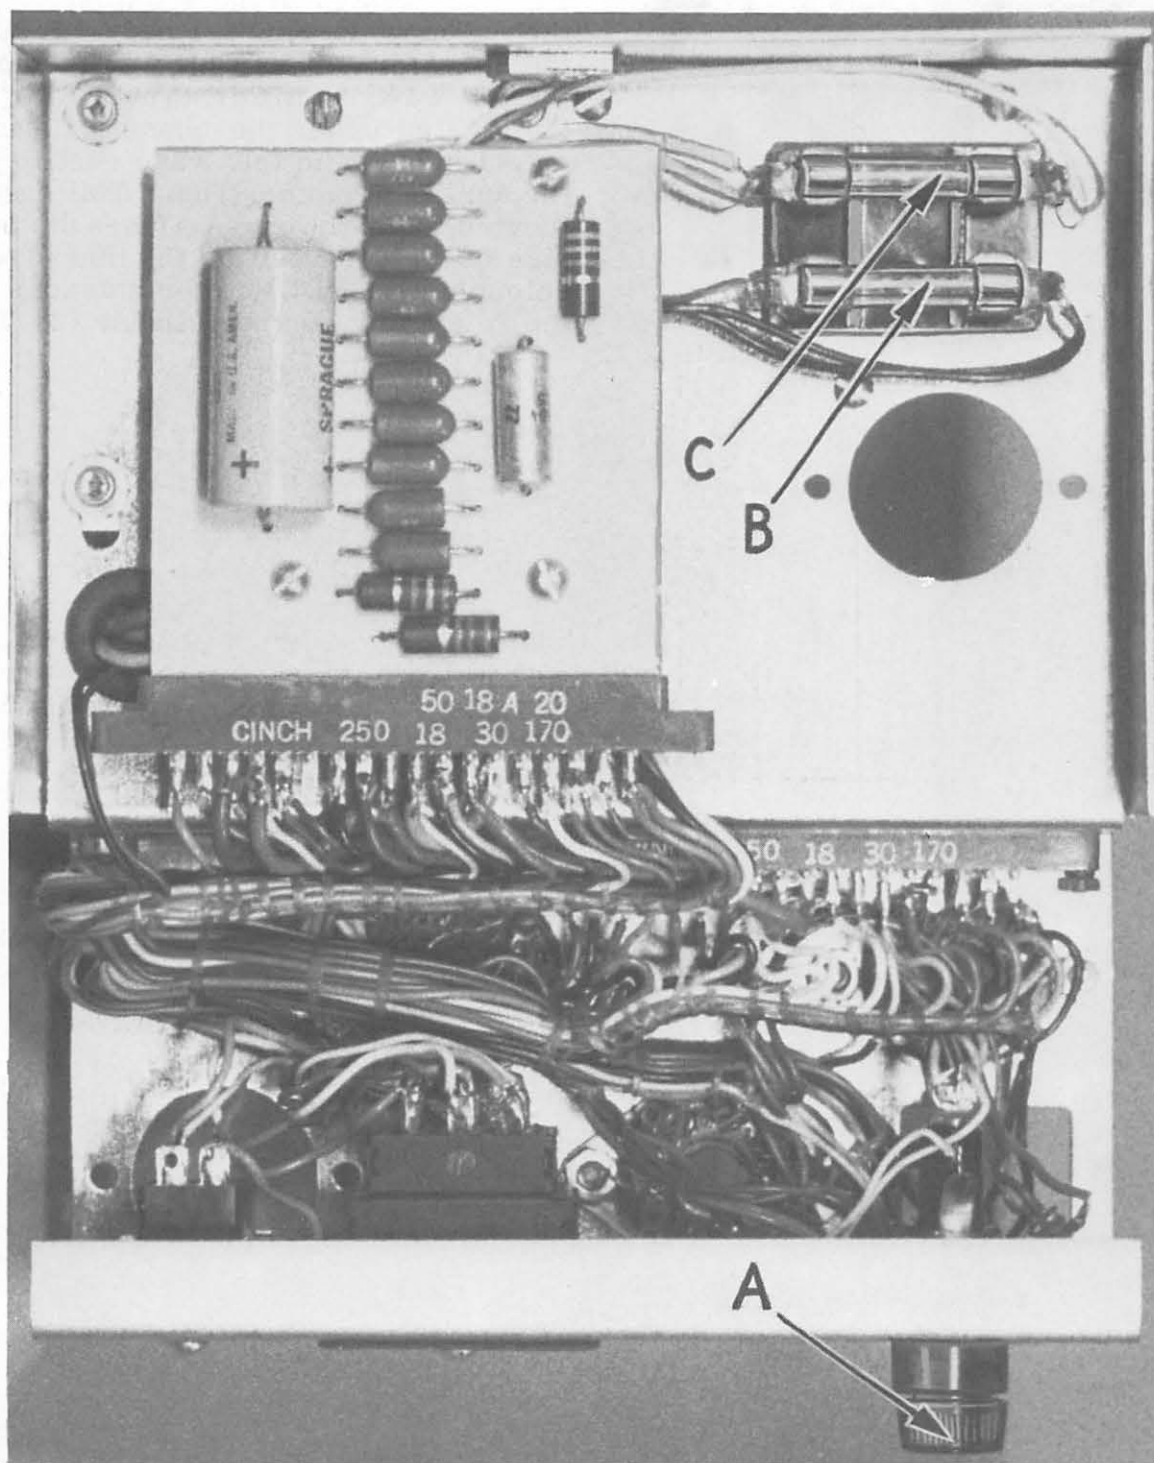

Fig. 38
The power pack incorporates a safety feature consisting of three (3) fuses of which two are of the slow blowing type and are rated 2 AMP at 250 V and the third a straight blow fuse rated 5 AMP at 250 V. The 2 AMP fuse (A, Fig. 38) located in the front panel fuses the AC input for the primary winding of the transformer as well as the input to the full wave rectifier. The 2 AMP fuse (B) located under the chassis fuses the output side of the full wave rectifier for the auxiliary motor. The 5 AMP fuse (C) located under the chassis fuses the output side of the rectifier for the thread wiper solenoid, (30 VDC) cutter solenoid, and the relay coil control circuit (24 VDC).